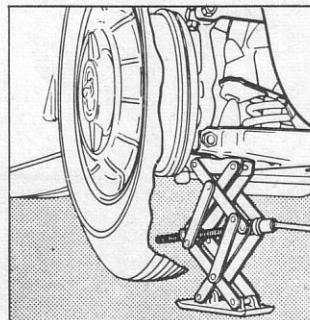

Fig. 1—Placing Jack for Front Tire Change
- a. At front wheel, place jack under the front suspension, under lower control arm near the outer end (fig. 1).